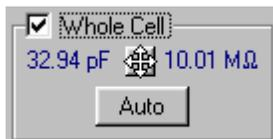

Figure 2.18
- We now wish to cancel the slow component of the transient, because (a) it may, like the fast transient, saturate the headstage amplifier (see Tutorial 3), and (b) this cancellation is necessary for series resistance compensation (see step 8, this Tutorial). Check the Whole Cell checkbox and use the toggle button to adjust the capacitance (pF) and series resistance ($M\Omega$) parameters. (See Figure 2.18 below.) It will be easier to do this while holding down the Shift key to magnify the effect of mouse movement.